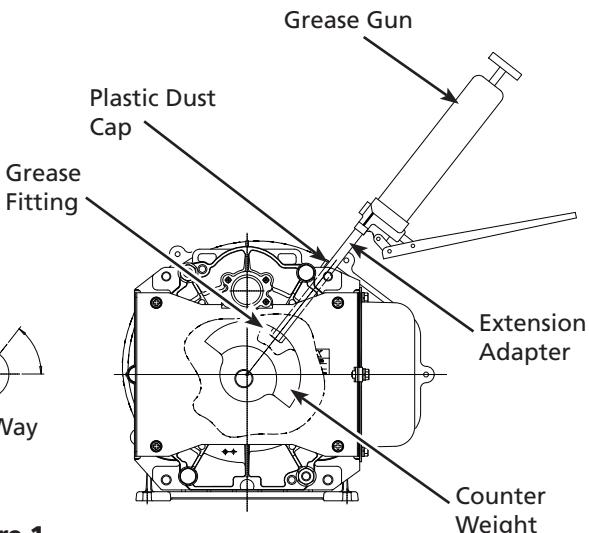

Figure 1
1. Remove the plastic dust cap (See Figure 1).
2. Rotate the compressor pulley until the grease fitting is visible through the dust cap hole (See Figure 1). This will allow regreasing of the OS bearing.
3. Use a grease gun extension adaptor to engage the grease fitting and supply the proper volume of grease as indicated on the grease delivery chart (See Grease Delivery chart on Page 2 and on Figure 1).